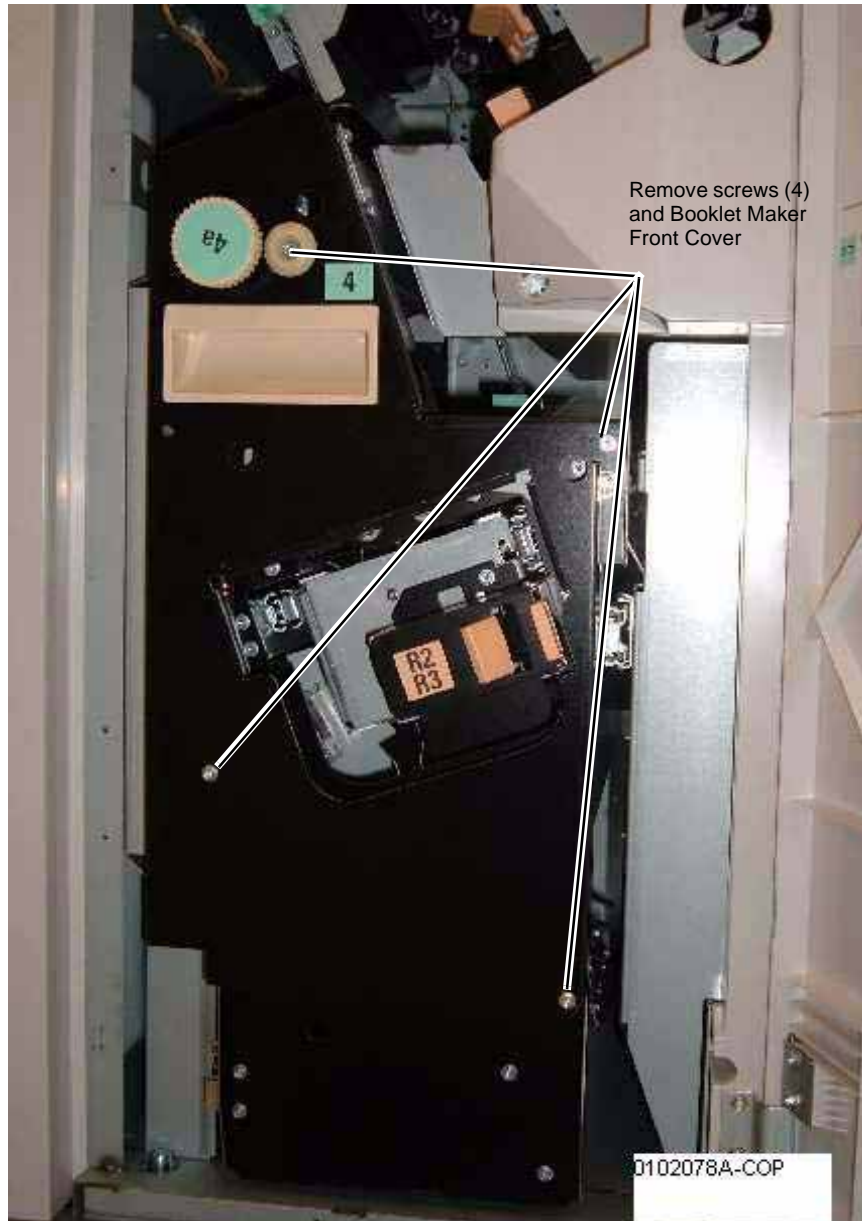

Figure 2 Removing the Booklet Maker Front Cover
3. Remove the Booklet Maker Front Cover (Figure 2).